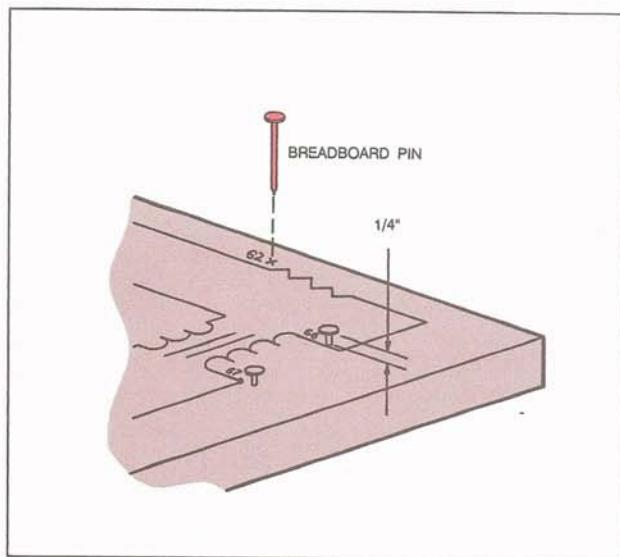

FIG. 15
- MP9 Breadboard pins (34)
3. Insert thirty-two (32) breadboard pins into the breadboard, with one positioned through each numbered "X" on the schematic diagram. The pins should extend 1/4" (5mm) above the board (See Fig. 15).